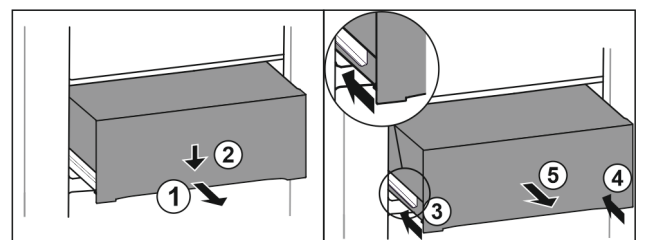

Fig. 145
- Pull out drawer half-way. Fig. 145 (1)
- Push the drawer down at the front. Fig. 145 (2)
- Push the left rail in by about 2 cm. Fig. 145 (3)
- Push the right rail in by about 2 cm. Fig. 145 (4)
- Remove drawer to the front. Fig. 145 (5)